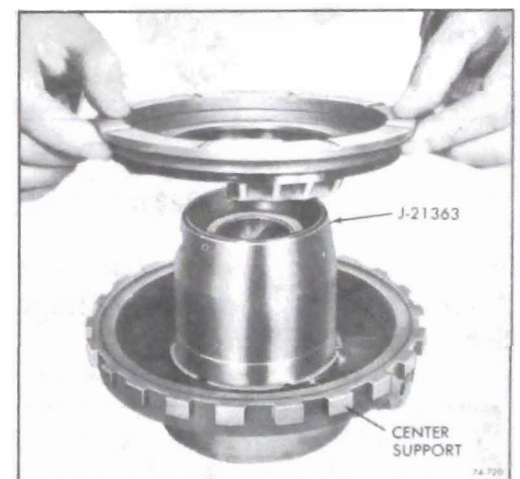

Figure 76-720
3. Install inner seal protector, Tool J-21363, on the center support hub, install piston. See Figure 76-720.